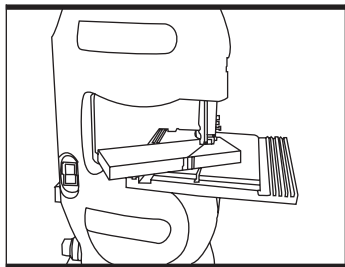

Fig 22
4. Freehanded cuts (See Fig22)